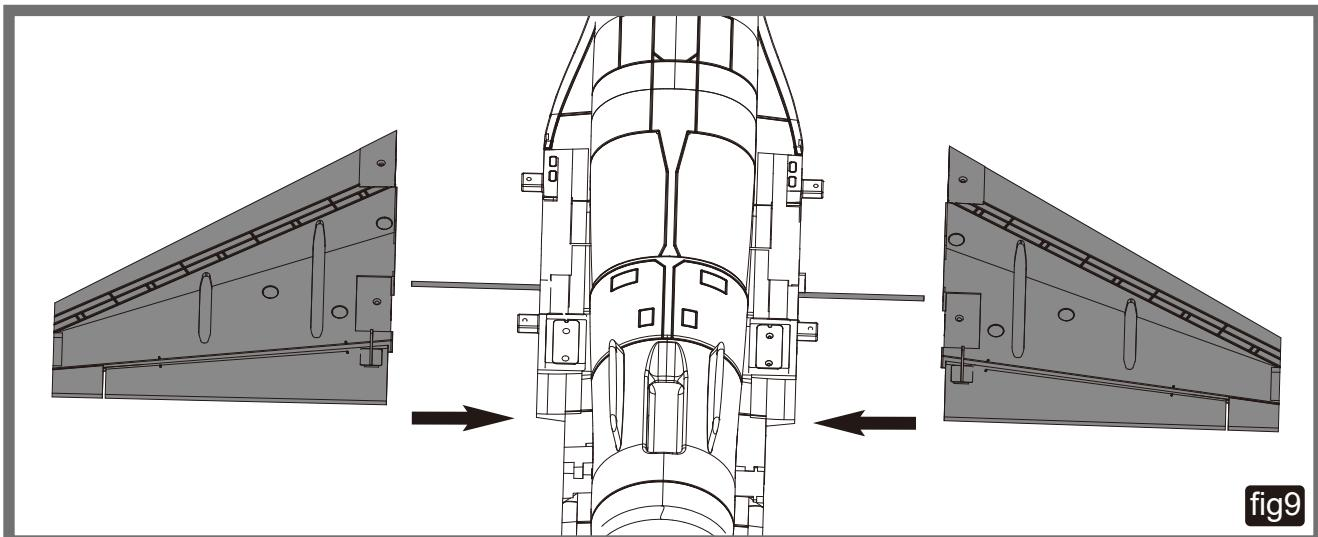

fig9
2. Install the left and right wing over the wing tube and into the wing slot of the fuselage (fig9).